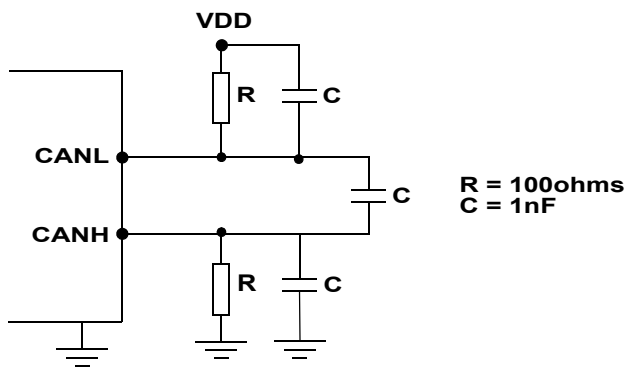

Figure 4. Test Circuit for AC Characteristics
26. AC Characteristics measured according to schematic Figure 4